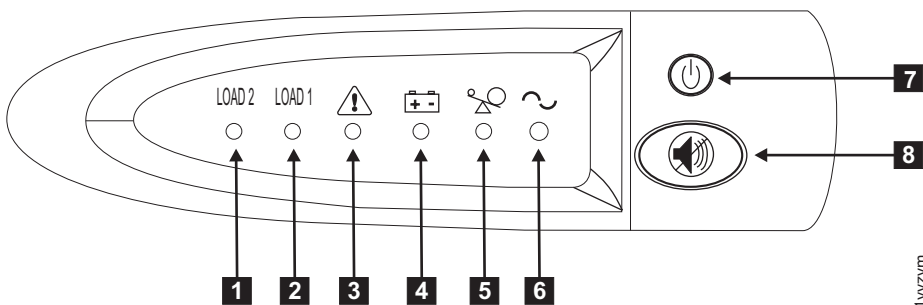

Figure 322. 2145 UPS-1U front-panel assembly
12. To turn on the 2145 UPS-1U, press and hold the on/off button ( **2** in Figure 322). On some versions of the 2145 UPS-1U, you need a pointed device, such as a screwdriver, to press the on/off button. The 2145 UPS-1U undergoes a self-test, taking approximately five seconds, before the power-on indicator **1** and the load indicators ( **7** and **8** ) light up permanently to indicate that the 2145 UPS-1U is supplying power to the SAN Volume Controller. The 2145 UPS-1U begins to charge its battery while in normal mode.